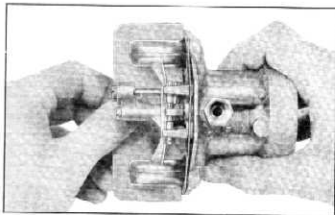

Fig. 94—Float Center Check
- Carefully bend float arms horizontally so that each float is centered in the gauge. Tilt assembly 90° each side and check that floats do not touch gauge (fig. 94). This insures that floats will not rub inner or outer sides of float bowl. Recheck level adjustment.